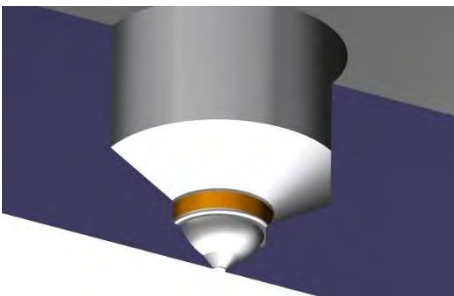

Figure 36: Checking the diameter close to the gate
- 4) Check whether the seal diameter close to the nozzle tip is within the required tolerance. This must always be $\varnothing H6$ (highlighted in orange in Figure 36), unless specified otherwise. In the case of a nozzle with a melt chamber, a tolerance of $\varnothing H7$ must be observed.